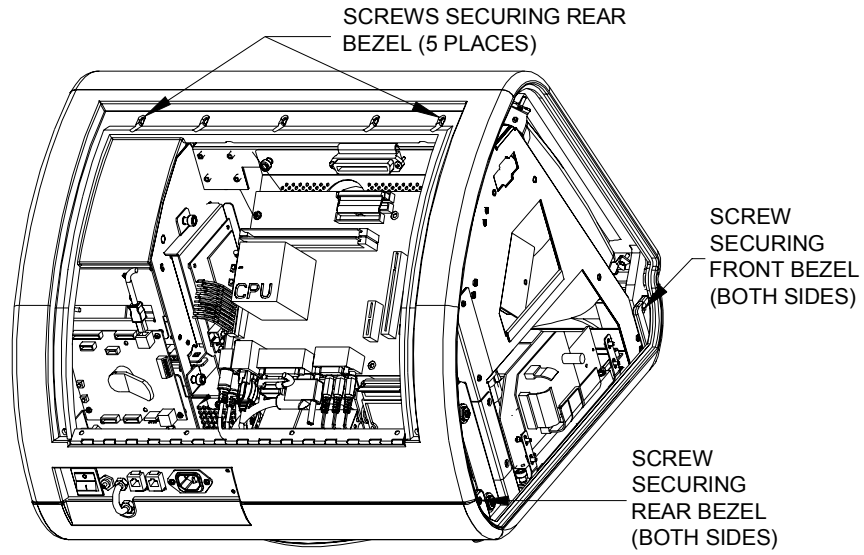
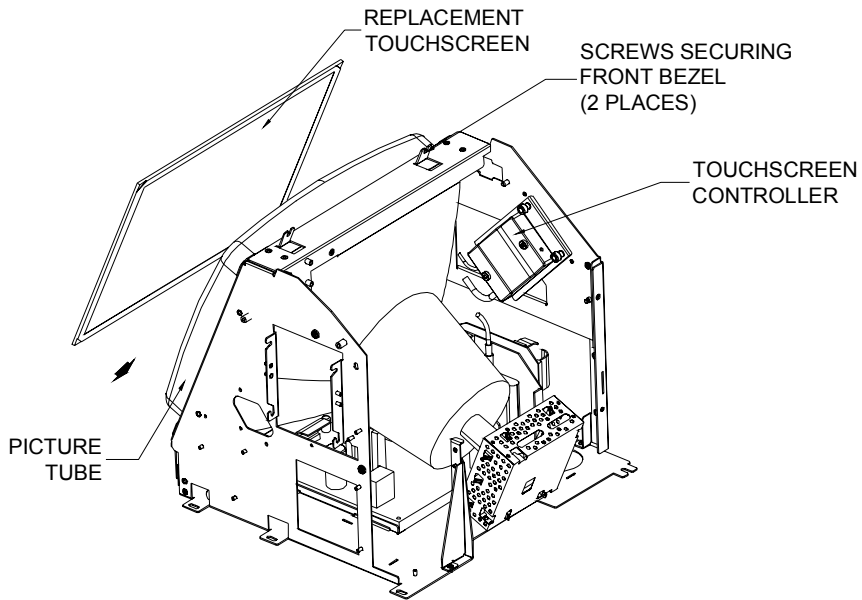

FIGURE 2 - FORCE RADION/FUN ZONE JR. - FRONT AND REAR BEZELS
FIGURE 3 - FORCE RADION/FUN ZONE JR. - MONITOR ASSEMBLY
5. Remove the screws holding the rear bezel to the game. Five screws are located along the top edge of the game and 2 are at the bottom rear of each side of the game. See Figure 2.
7. Remove the 4 screws holding the front bezel to the game. Two screws are located at the bottom on each side of the game (see Figure 2) and 2 are on the top surface (see Figure 3).
9. Remove the two nuts and washers securing the touchscreen controller (see Figure 3) to the game and remove the controller from the mounting screws. Then disconnect the cable from the back of the controller and disconnect the Molex connector (orange and gray wires) running from the touchscreen controller cable to the main power harness.
19. Replace the front bezel and the 4 screws (2 at the bottom, 2 at the top) holding the bezel to the game. See Figures 2 and 3.
20. Replace the rear bezel and the 7 screws (5 along the top edge, 2 at the bottom rear) holding the bezel to the game. See Figure 2.